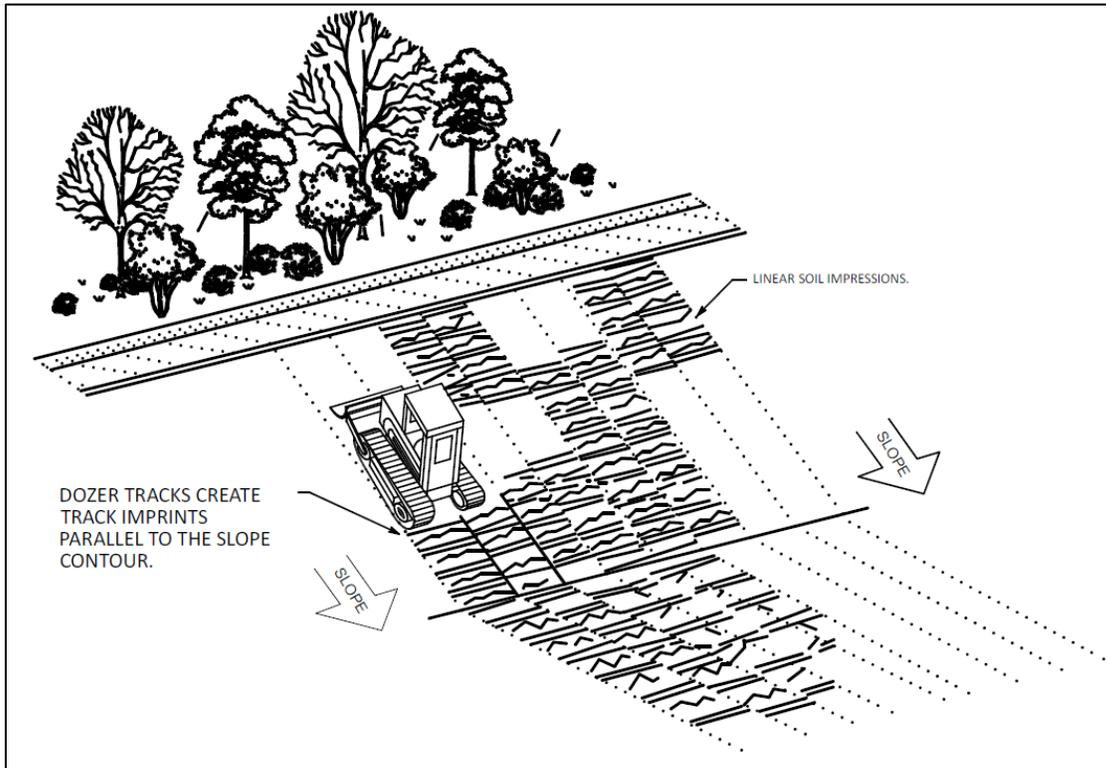

Figure 4.3.8-B: Tracking details. Adapted from VDEQ (2024).
- Operate tracked machinery up and down the slope to leave horizontal depressions in the soil perpendicular to drainage. Do not back-blade during the final grading operation (Figure 4.3.8-B); and